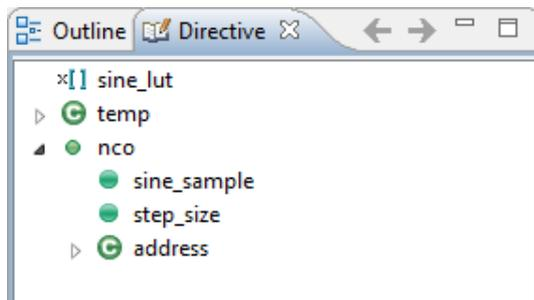

Figure 4.37: Vivado HLS Directive tab
- (l) Ensure that **nco.cpp** is the active source file, and select the **Directive** tab in the right-hand side of the Vivado HLS workspace, as shown in Figure 4.37.